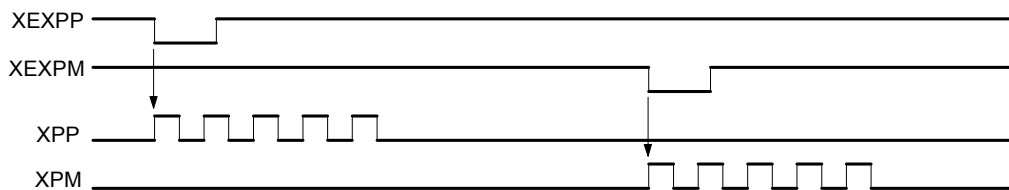

Fig. 2.39 Example of The Constant Driving by External Signal
There is only one interrupt signal, INTN (33), to the host CPU. So, the signal will be OR calculated, then output, as shown in Fig. 2.39.